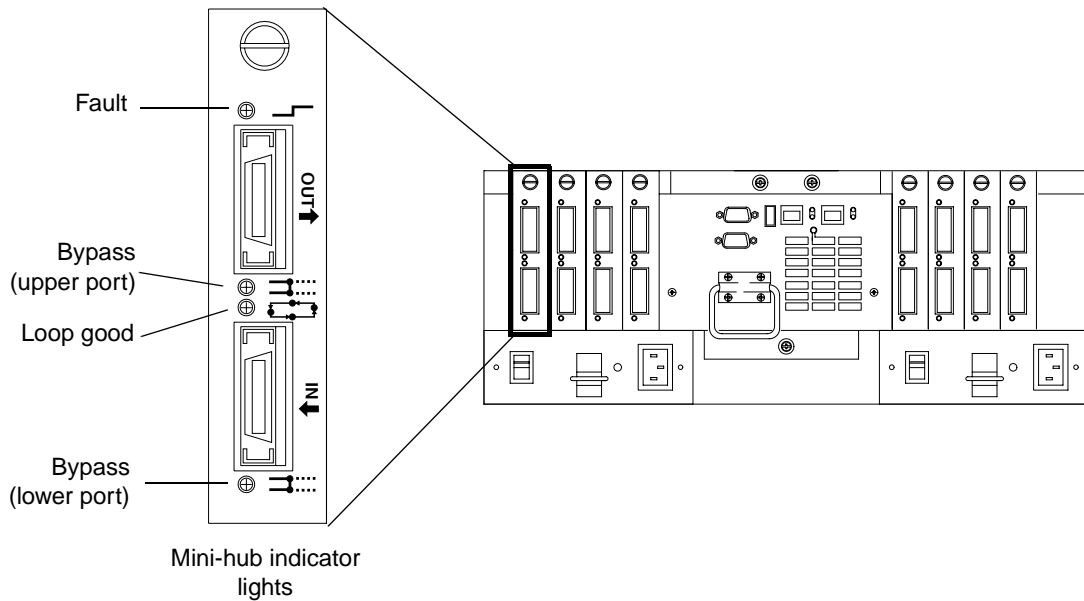

Figure 11. Mini-hub indicator lights
- 4** Check the indicator lights on the mini-hubs, as shown in Figure 11 on page 19 and described in Table 4 on page 20.
The mini-hub indicator lights on the back of the controller unit are shown in Figure 11 and described in Table 4 on page 20.